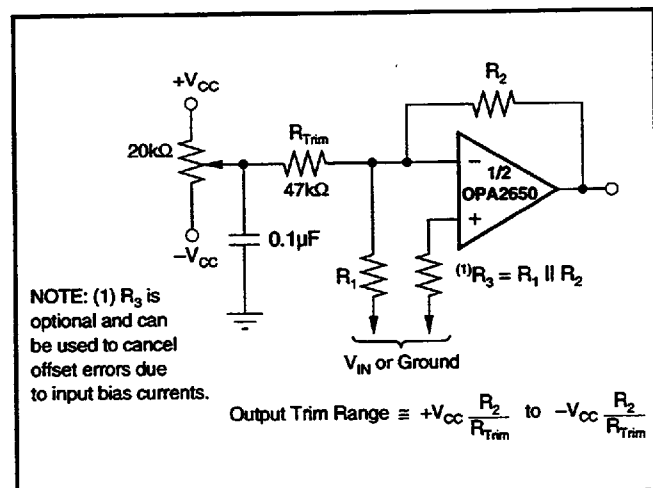

FIGURE 2. Offset Voltage Trim.
If additional offset adjustment is needed, the circuit in Figure 2 can be used without degrading offset drift with temperature. Avoid external adjustment whenever possible since extraneous noise, such as power supply noise, can be inadvertently coupled into the amplifier's inverting input terminal. Remember that additional offset errors can be created by the amplifier's input bias currents. Whenever possible, match the impedance seen by both inputs as is shown with R_3 . This will reduce the output offset voltage caused by the amplifier's input offset current.
8. CORNER LEADS (1, 4, 5, AND 8) MAY BE CONFIGURED AS SHOWN IN FIGURE 2.